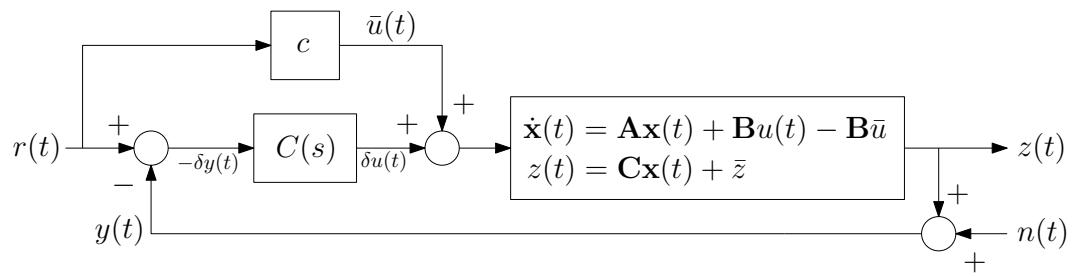

Figure 4: Feedback loop involving an affine plant.
- The fact the pump “get stuck” when the voltage is below 1.5 (V) will be ignored. Just assume the pump starts moving for any non-zero voltage input.
- The maximum input voltage is 5 (V). You can use the DC gain of $P_0(s)$ to find the maximum water-flow rate. In reality, the max voltage can be slightly exceeded, but only for very short durations.
- Within the sample code is a means to simulate the plant, which is *not* linear, and the controller, which *is* linear. The simulation realizes the interconnection shown in Figure 4.